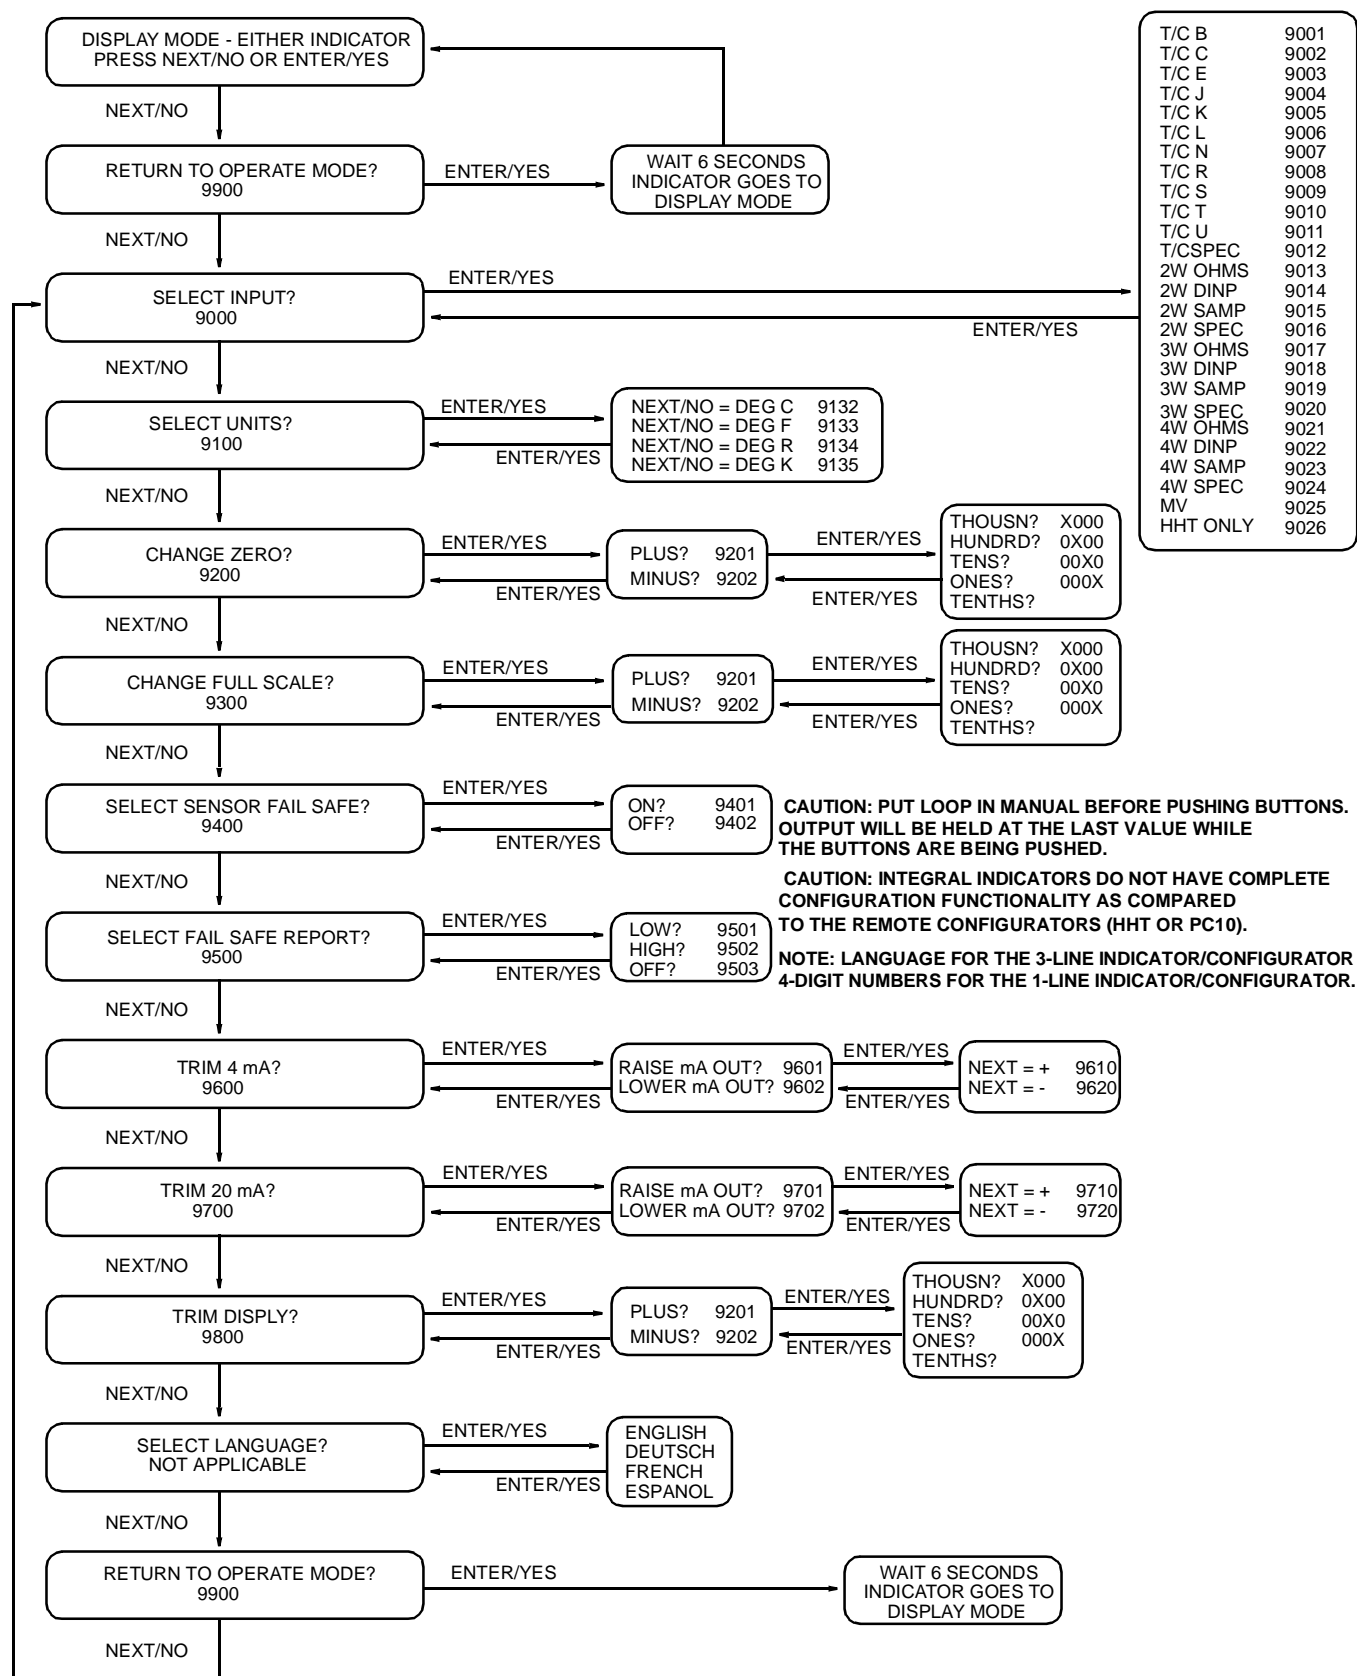
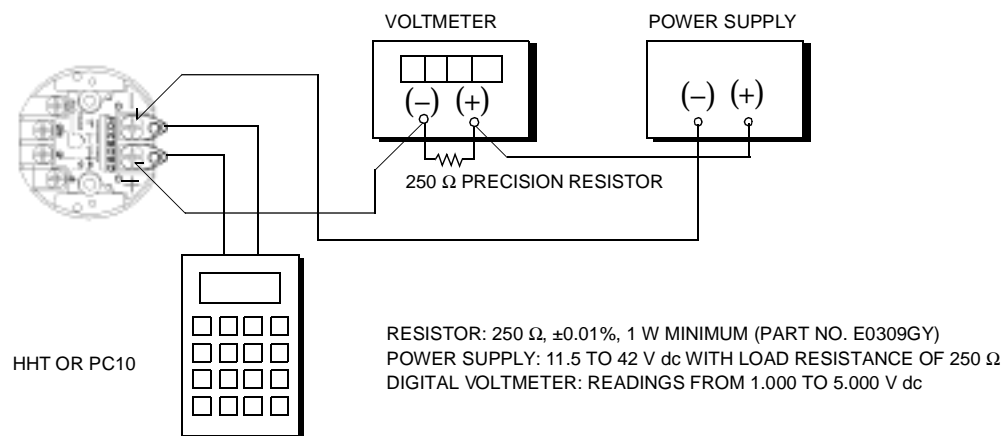

Figure 23. Indicator Configurator Flowchart
Figure 24. 4 to 20 mA Output Calibration Setup
3. Following the configurator flowchart (Figure 23), use the NEXT/NO button to go to the first parameter to be reconfigured and press ENTER/YES. Continue to follow the flowchart to configure your transmitter.
If you have a 4 to 20 mA output, you may trim the output at 4 mA and 20 mA by connecting a digital voltmeter and precision resistor in the output loop (see Figure 24) and adjusting the output in Configuration Mode. For the procedure using the integral indicator/configurator, see the flowchart in Figure 23 on page 42. For the procedure using a remote configurator, see MI 020-479 (PC10 Configurator), MI 020-469 (HHT), or MI 020-460 (HART Communicator).